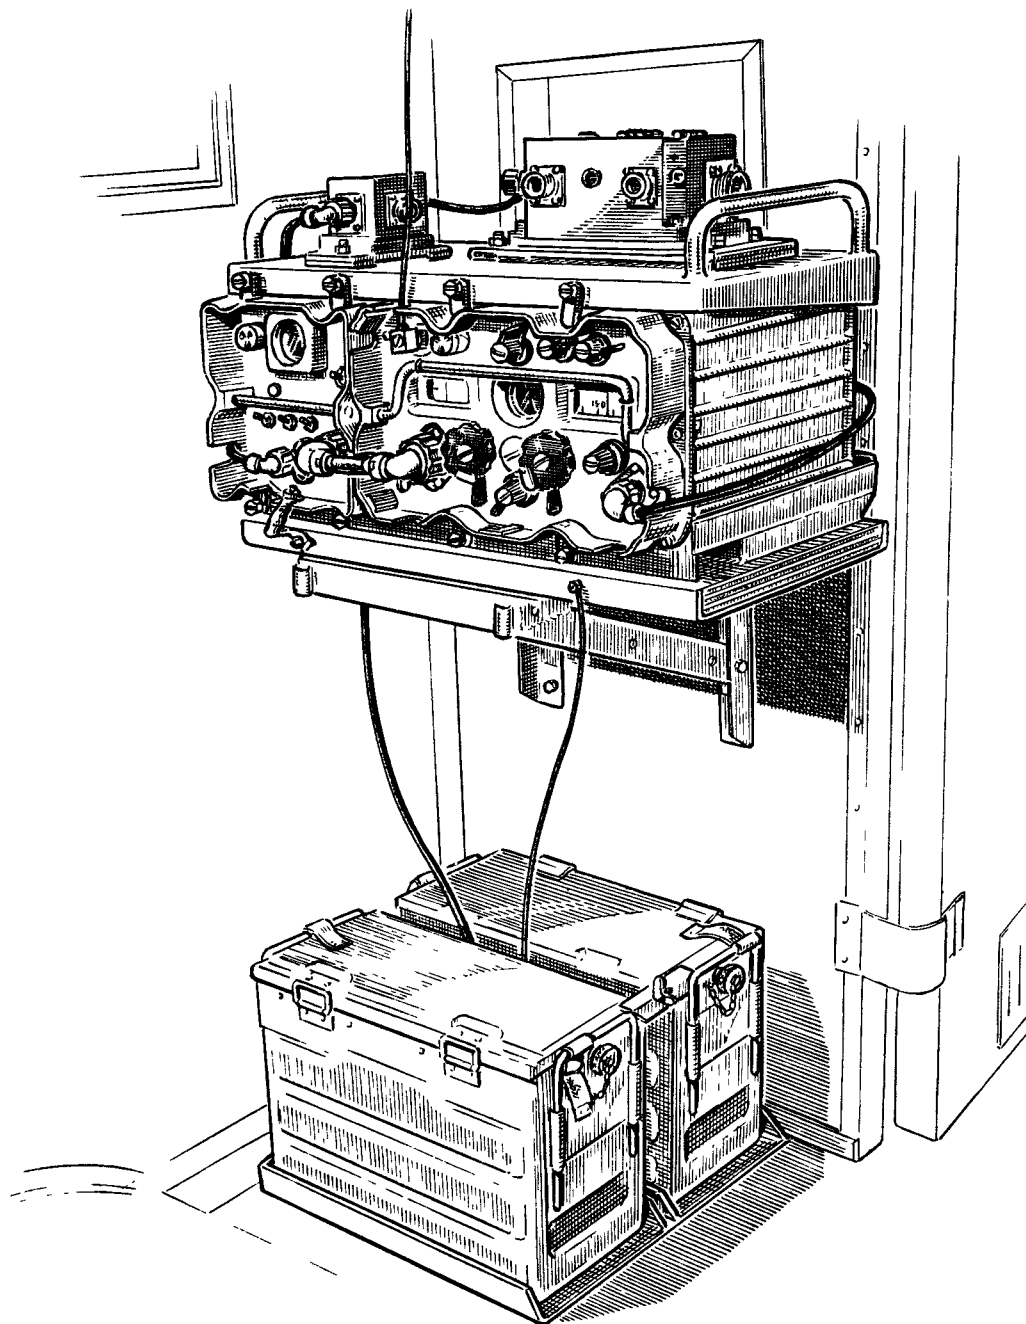

FIG. 63 RADIO SET POSITION IN RH REAR CORNER
- (c) When three pairs of batteries are installed, fit the third battery earth lead to the spare earth terminal on the front of the 23-in. table. See fig. 63.
(6) Battery connectors